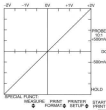

Figure 4.14 Component test "VOLTAGE" mode
- E The ScopeMeter display will now look like figure 4.14, if you use a 10 k Ω resistor, a 45° line will be shown.